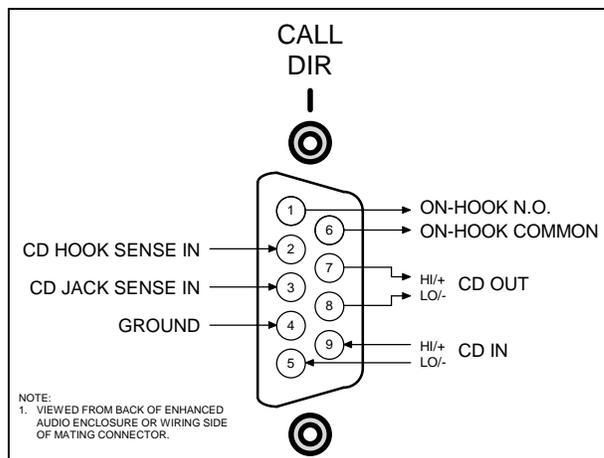

Figure 10 – Call Director Interface Connector At Enhanced Audio Enclosure
Table 8 describes the various signals between the Enhanced Audio Enclosure and the Call Director. The descriptions are relative to the Enhanced Audio Enclosure. All Enhanced Audio Enclosure connections are made at the "CALL DIR" female DB-9 connector. Figure 10 and Table 13 indicate the connector's pin-out.
- Interconnect the Enhanced Audio Enclosure to the Call Director as required per Tables 8 and 13, Figure 10, and the Call Director's documentation.